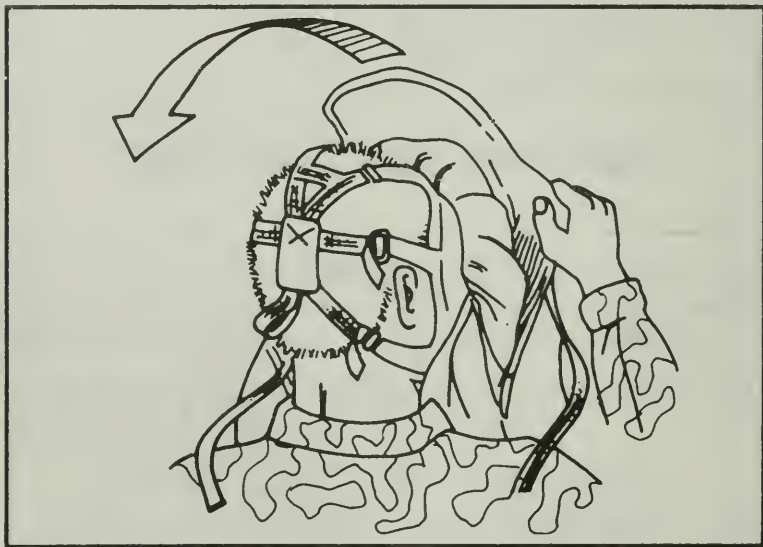

Figure 305. Pull hood over head.
o. Grasp the back of the hood skirt (Figure 305) and carefully pull your hood over your head so that it covers the back of the neck, the head, and the shoulders.